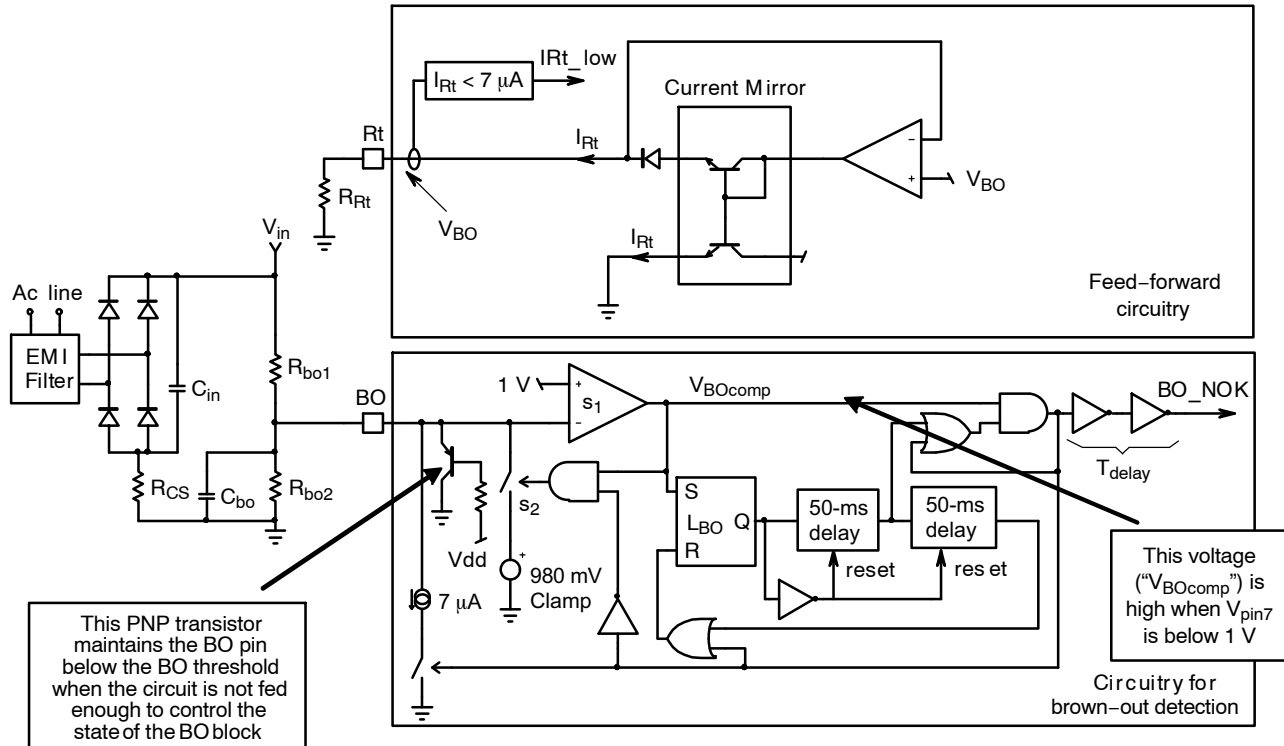

Figure 19. Brown-out Block
In nominal operation, the voltage applied to pin7 must be higher than the 1 V internal voltage reference. In this case, the output of the comparator BO\_Comp ( $V_{BOcomp}$ ) is low (see Figure 19).
can be detected. This is the role of the second 50-ms timer of Figure 19:
- The OPAMP output is separated from pin7 (Figure 19) to prevent the operational amplifier from maintaining 1 V on pin7 (as done by the switches  $s_1$  and  $s_2$  in the representation of Figure 19). Instead,  $V_{pin2}$  drops to the value that is externally forced (by  $V_{in}$ ,  $R_{bo1}$ ,  $R_{bo2}$  and  $C_{bo2}$  in Figure 19). As a consequence, the OPAMP output remains high and the “BO\_NOK” signal stays high until the line recovers.
As shown by Figure 19, The BO circuit also generates an internal current proportional to the input voltage average value (IRt). The pin7 voltage is buffered and made available on pin 3. Placing a resistor between pin 3 and ground, enables to adjust a current proportional to the average input voltage. This current (IRt) is internally copied and squared to form the charge current for the timing capacitor of each phase. Since this current is proportional to the square of the line magnitude, the conduction time is made inversely proportional to the line magnitude. This feed-forward feature makes the transfer function and the power delivery independent of the ac line level. Only the regulation output (VREGUL) controls the power amount. If the IRt current is too low (below 7  $\mu$ A), the controller goes in OFF mode to avoid damaging the MOSFETs with too long conduction time.